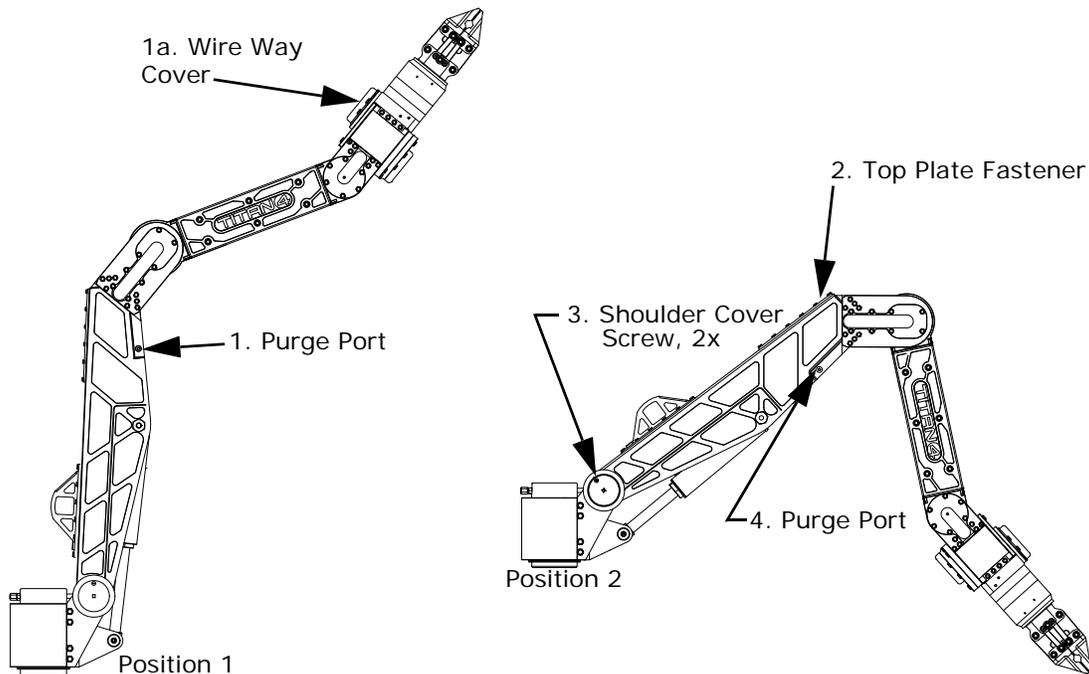

Figure 6 Bleed positions and bleed points
10. Move the slave arm to a wrist-high position (see Figure 6—position 1).
11. Open the purge port (Figure 6—point 1).
NOTE: This will take some time as some passages are small and the compensation must travel all the way to the wrist before returning to the purge port near the elbow. You can speed up filling to the wrist by loosening the wrist wireway cover (Figure 6, 1a). Tighten when fluid emerges.
15. Move the slave arm to position 2 and remove one top plate fastener (Figure 6, 2). Replace when fluid emerges.
16. Remove the screw from each shoulder cover (Figure 6, 3, 2x) and replace when fluid emerges.